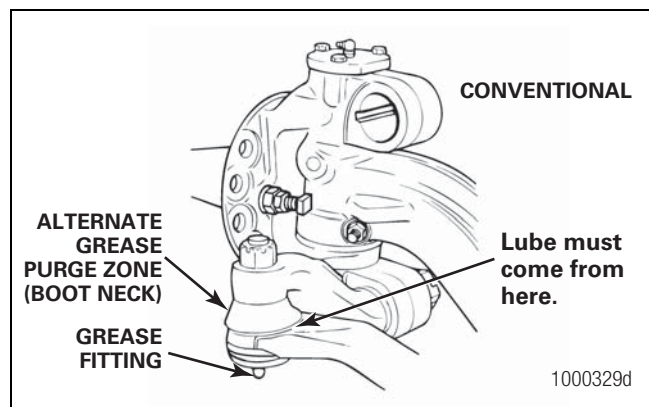
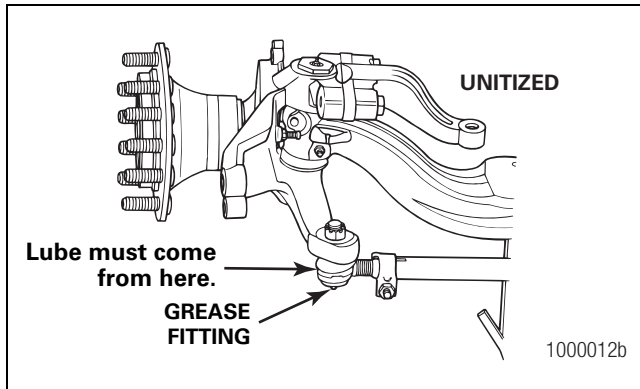

Figure 9.10
Figure 9.11
4. Apply lubricant until new lubricant comes from the boot. Figure 9.10 and Figure 9.11.